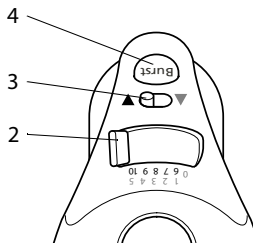

Figure 6
The On/ Mixer Speed Range Selector Switch (figure 6, item 2) is used to:
To select speeds 1 through 5 on the Speed Selector Switch (figure 6, item 2), the High/ Low Switch (figure 6, item 3) must be in the Low position ▲. To select speeds 6 through 10, the High/ Low Switch (figure 6, item 3) must be in the High position ▼.
For every speed selected, the Burst of Power® Feature Button (figure 6, item 4) can be pressed and held when the appliance is in operation to achieve the maximum power within the selected speed.